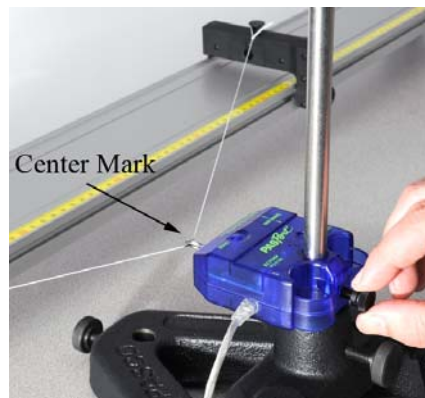

Figure 14. Movable Force Sensor
3. Use the "Movable" Force Sensor (mounted on the movable Rod Base) to pull sideways on the string as show in Figure 14. Adjust the position of the Endstop for an angle between 10° and 15° . By gently moving the Rod Base, adjust the Side Force to be about 5 N. Check that the "String" Force Sensor is free to rotate and reads the correct angle.
4. Make sure the Movable Force Sensor hook is at the "center" of the string, and is square to the track: The string must pull straight out on the hook. It helps to loosen the thumb screw (see Fig. 14) and then re-tighten.